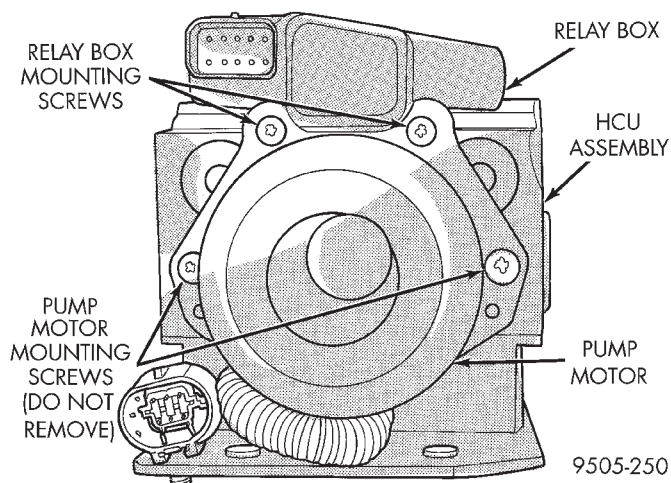

Fig. 26 Relay Box To HCU Mounting Screws
- (1) Disconnect negative (ground) cable from the battery and isolate the cable.
- (2) Remove the HCU from the vehicle. See Hydraulic Control Unit in the Removal And Installation Section in this group of the service manual, for the required removal procedure for the HCU.
- (3) Remove the 2 screws (Fig. 26) attaching the relay box assembly to the HCU. **Remove only the 2 screws mounting the relay box to the HCU do not remove the pump motor mounting screws (Fig. 26).**
(2) Position relay box on HCU and carefully align the terminals on the relay box with the terminals on the pump motor.
(3) Grasp relay box with both hands. Then without twisting or rocking, push relay box onto the pump motor electrical connector as far as possible by hand.
(4) Install and securely tighten the 2 screws (Fig. 26) attaching the relay box assembly to the HCU.
(5) Install the HCU back in the vehicle. See Hydraulic Control Unit in the Removal And Installation Section in this group of the service manual, for the required installation procedure for the HCU.
(6) Connect the negative (-) ground cable back on the negative post of the battery.
(7) Bleed the base brakes and the ABS brakes hydraulic system. Refer to the Bleeding ABS System in this section of the manual for the proper bleeding procedure.
(8) Road test vehicle to ensure proper operation of the base and ABS systems.